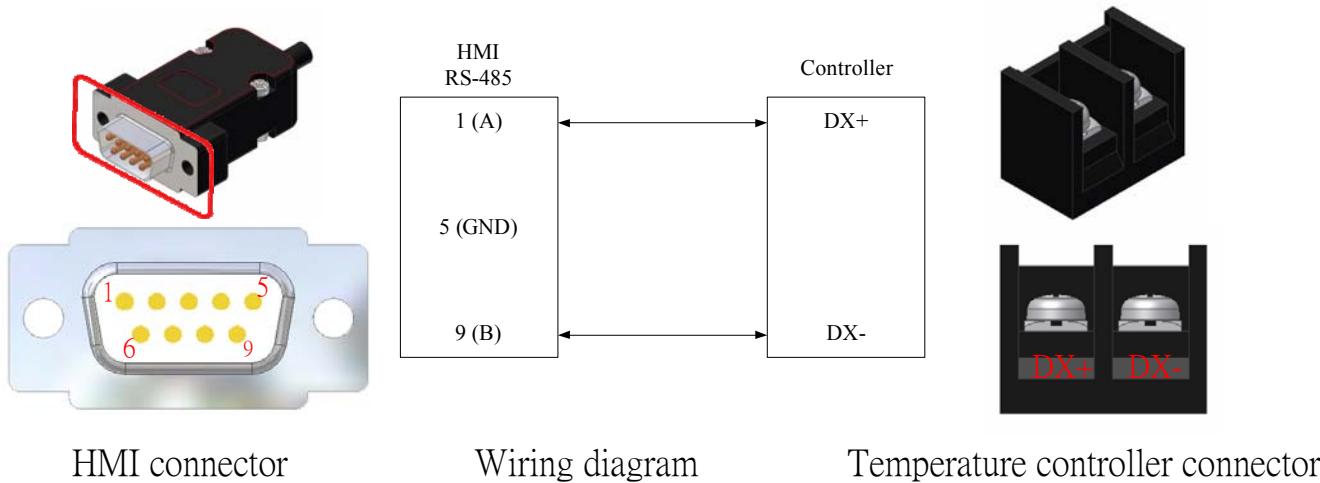

Figure 2-1-62: RS-485 connection
- The Shihlin temperature controller shall be connected to RS-485 as shown in figure 2-1-62.